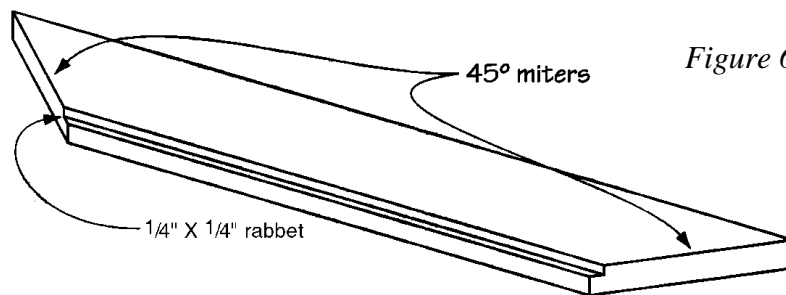
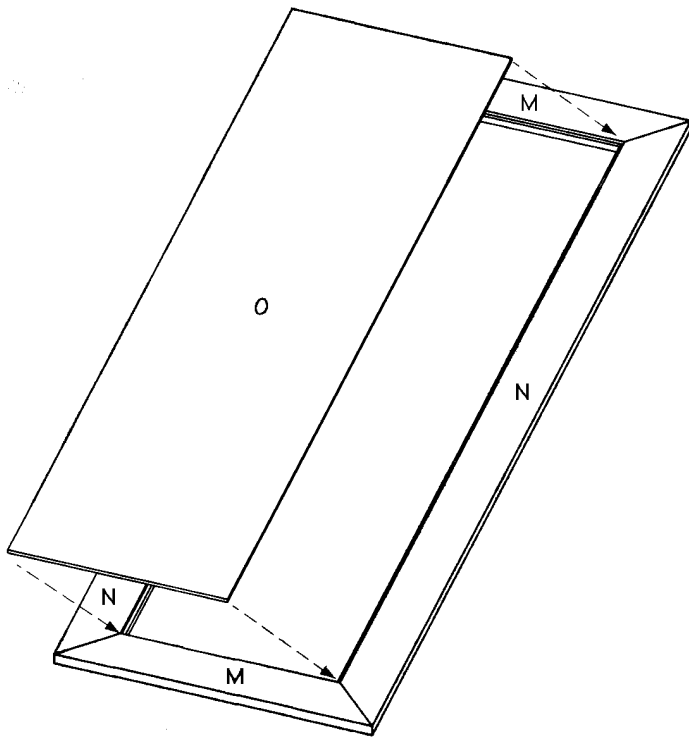

Figure 6
Figure 7
1. Cut four top/bottom door trims (M) from 1 x 4 pine, each measuring 21 inches long.
2. Miter each of the four top/bottom door trims (M) at opposing 45-degree angles, as shown in *Figure 6*.
3. Cut four side door trims (N) from 1 x 4 pine, each measuring 61 inches long.
4. Miter each of the four side door trims (N) at opposing 45-degree angles, as shown in *Figure 6*.
5. Cut a $\frac{1}{4}$ x $\frac{1}{4}$ inch rabbet on the inside edges of the backs of the door trims (M and N), as shown in *Figure 6*.
6. Cut four door panels (O) from $\frac{1}{4}$ -inch plywood, each measuring $14\frac{1}{2}$ " x $54\frac{1}{2}$ ".
7. Place two top/bottom door trims (M) fronts down, 54 inches apart, and parallel to each other. The miters should oppose each other, as shown in *Figure 7*.
8. Fit two side door trims (N) between the two top/bottom door trims (M), as shown in *Figure 7*. Apply glue on the mitered surfaces and to the rabbets. Lay one door panel into the rabbet and clamp the door assembly together. Nail through the door panel (O) at an angle into the door trims (M and N) using $\frac{3}{4}$ " brads spaced 4 inches apart. Reinforce the outside of each miter joint by driving one 1- $\frac{1}{4}$ " 3d finishing nail across the joint from each edge, starting about 1 inch from the corner.